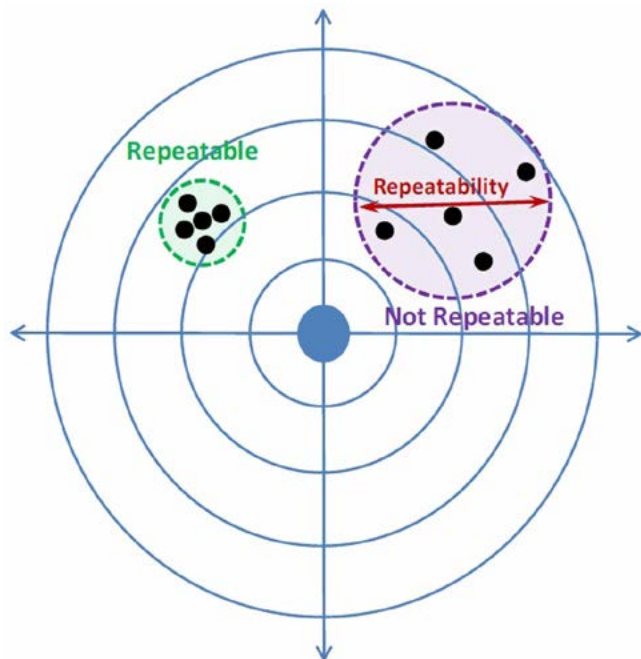

Figure 2: Repeatability.
“Accuracy” and “repeatability” are commonly encountered terms used as performance characteristics of fluid dispensing equipment. Unfortunately, these terms are often confused or misunderstood. Accuracy (Figure 1) is a measure of how close an achieved position is to a desired target position. Repeatability (Figure 2) is a measure of a system’s consistency to achieve identical results across multiple tests. The ultimate
ple test points under consistent test conditions. Figure 2 illustrates examples of repeatable and non-repeatable processes. Thus, for the purposes of specifications, achieving smaller repeatability numbers is better because it indicates tighter groupings or a smaller range within the test data distribution. Repeatability differs from accuracy in that it is concerned with variations in achieved results relative to each other within a given sample size.
1.0. Using C_p , however, assumes that the center of the data set falls at the midpoint between the USL and LSL. Therefore, it is possible to have a highly repeatable process (low variation, tight distribution of data) but be completely off target (poor accuracy) as in the case of the left group of data points in Figure 2.